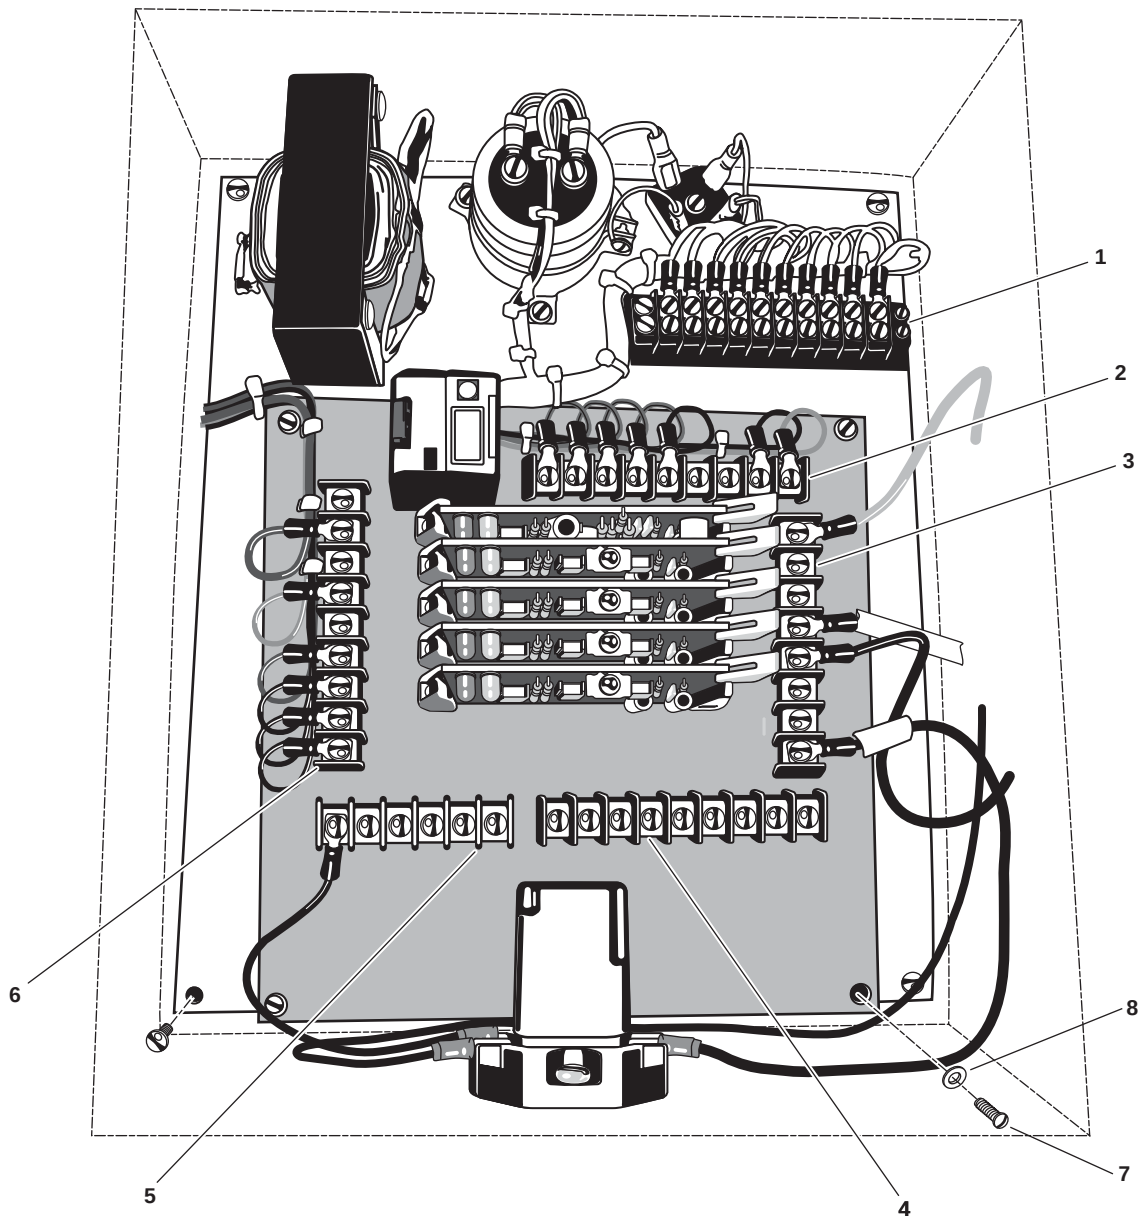

Figure 7. Alarm Panel Assembly
2. Use a multimeter to check for voltage at the connection points on the back of all fuse holders (figure 2, item 1) and terminal boards (figures 7, items 1, 2, 3, 4, 5 and 6). If voltage is present, ensure that the proper circuit breaker is set to OFF, locked out, and tagged out (FM 55-502). If no voltage is present, continue with the procedure.
4. Remove the four bolts (figure 7, item 7) and four flat washers (figure 7, item 8). Remove the alarm panel from the bulkhead.
1. Install the alarm panel, securing it to bulkhead with the four bolts (figure 7, item 7) and four flat washers (figure 7, item 8).
2. Install the cables and connect the wiring to the terminal boards (figures 7, items 1, 2, 3, 4, 5 and 6) using the labels from step 3 of Removal as a guide. Remove the labels.